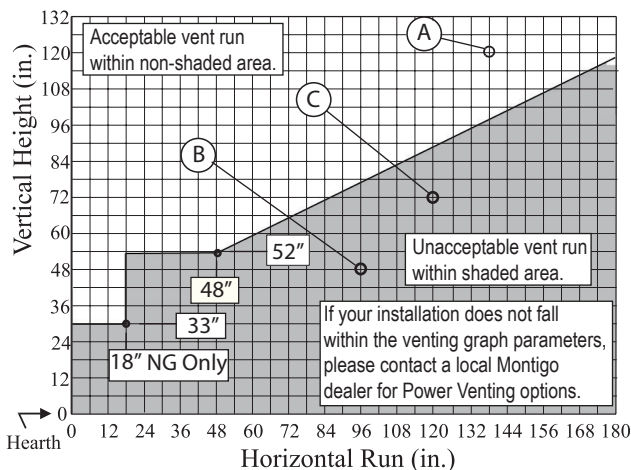

Figure 15. Rear Vent Venting Graph for wall mounted terminations.
- Venting runs *must* fall within the limits set by the venting graphs, see Figure 15.
Measure the vertical height from the fireplace hearth to the centre of the termination and the horizontal run from the fireplace flue collar to the wall flange of the termination. Plot on the Venting Graph Figure 15 with an 'X'.
Figure 15a. Straight run, Rear Vented, wall mounted termination for H\*42DF\*, Figure 15. N.G. (Natural Gas) equipped fireplaces ONLY. For Propane fireplaces, see figure 15b below.
Figure 15b. Rear Vented, wall mounted Multi-elbow termination installation. Installation for H\*42DF\* must have a minimum vertical rise of 52". The vent run must comply with the Venting Graph for Rear vent, wall mounted terminations, Figure 15.